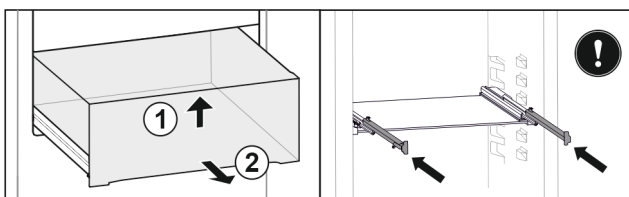

Fig. 27\*
- ▶ Lift up the drawer at the front Fig. 27 (1).\*
- ▶ Take off to the front Fig. 27 (2).\*